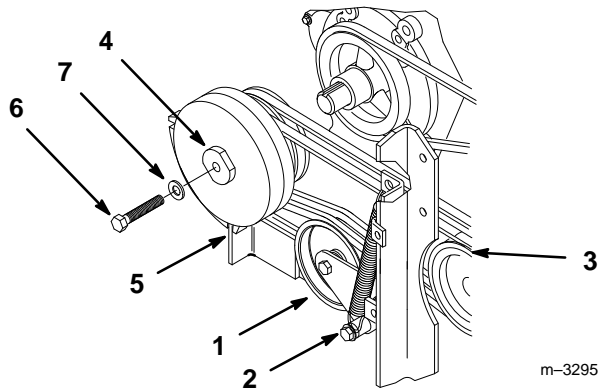

Figure 31
1. Hold spring loaded idler against belts and pull spring down to remove from lower bolt mount (Fig. 31).
2. Lower idler to relax tension on belts and remove belts from gear box pulley (Fig. 31).
3. Hold flats on clutch hub and remove clutch mounting bolt and washer. Slide clutch off crankshaft and lower through frame (Fig. 31).
- Hold spring loaded idler against belts and pull spring down to install on lower bolt mount (Fig. 31).